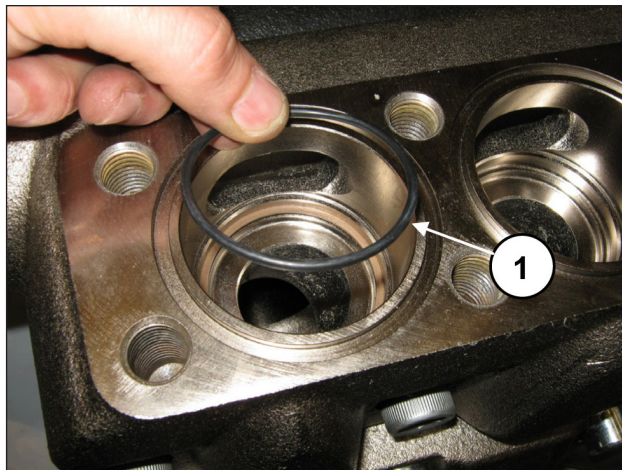

Fig. 161
Fit the O-ring, exploded view pos. 25 (pos. ①, Fig. 161).